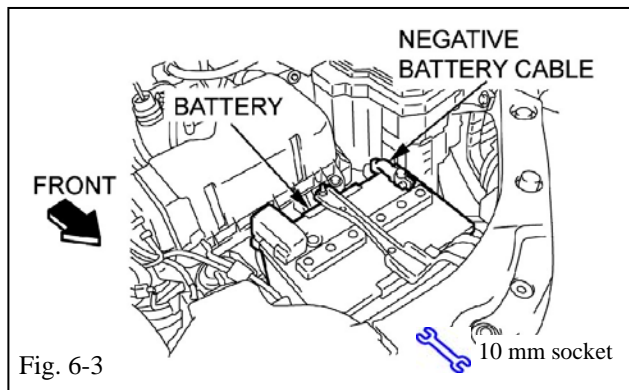

Fig. 6-3
- (d) Reconnect the vehicle's negative battery cable as shown or to original factory orientation. (Fig. 6-3)
- (1) Torque nut to :
(Fig. 6-3)
- (2) Be careful not to touch the positive battery cable.(Fig. 6-3)